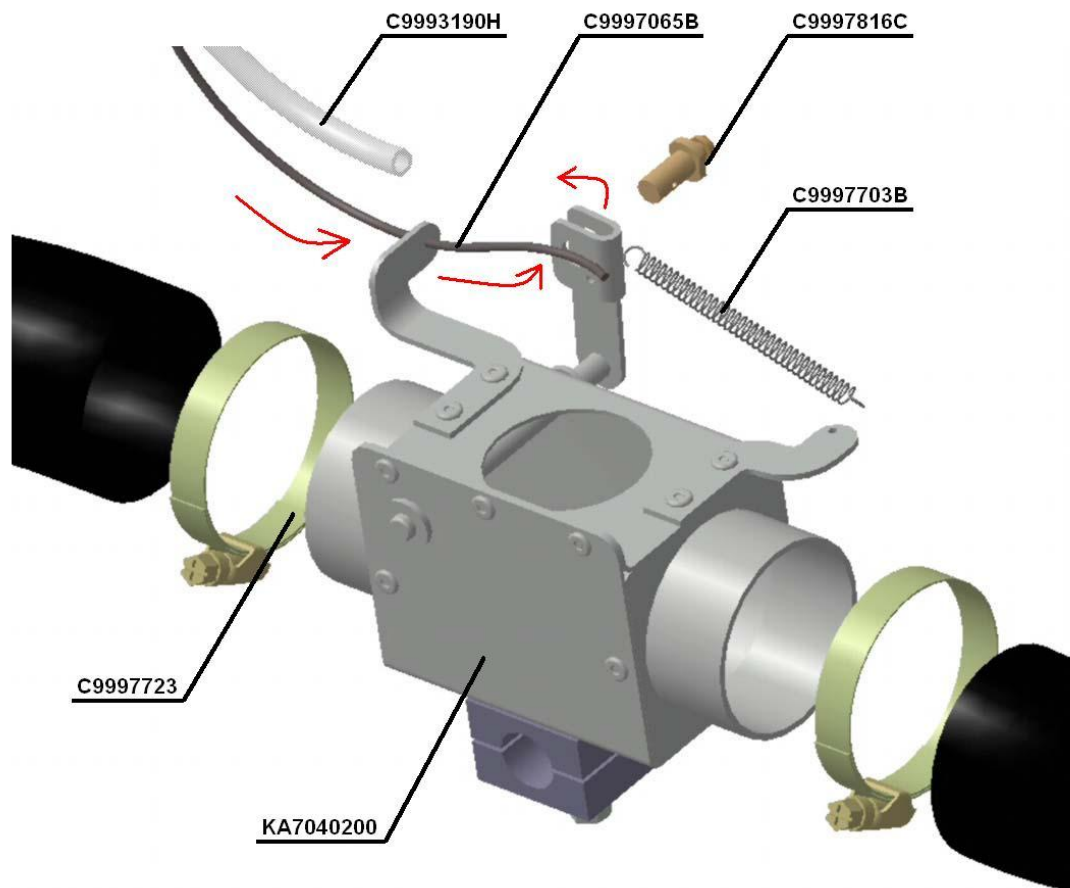

Fig. 4
- Check if there is the spring C9997703B Spring 0,5x5,0x25,0 at the Cabin heater choke KA7040200. If the spring is missing or damaged, set a new one. Fig. 4.
- b. Check if the cable C9997065B Steel rope 7x7 1 mm is frayed and if there is the stop C9997816C Cable stop 1806-Z ni at the cable attachment to the Cabin heater choke KA7040200. Fig. 4.
- c. If the stop C9997816C (Cable stop 1806-Z ni) is missing, connect the cable C9997065B (Steel rope 7x7 1 mm) to the Cabin heater choke as shown at the Fig. 4 and fix it fix it by the stop C9997816C (Cable stop 1806-Z ni) using a screwdriver.
- Attach the cable C9997065B (Steel rope 7x7 1 mm) to the heating Cabin heater choke KA7040200 as shown by arrows at Fig. 4, secure the cable by C9997816C Cable stop 1806-Z ni.
4. Check the Cabin heater choke KA7040200 for operating according to the item 2. If positive, continue from item 7.